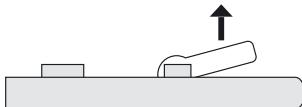

Fig. No. 4
- Remove the plastic tab inserted between one of the battery terminals and battery slot contacts (see Fig. No. 4).